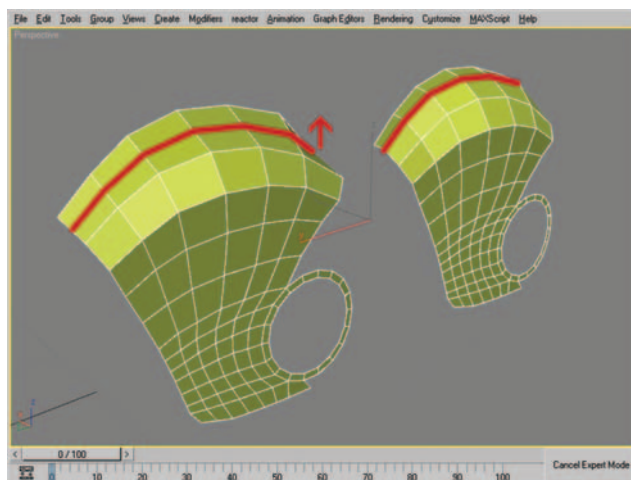

Figure 8.20 Edge selection before and after moving with the *Move* tool.
23. In the perspective viewport, adjust the positions of the new edges that were just created with the Move tool to create a rounder curve to the fuel tank. Figure 8.20 shows the edge position before and after the move.